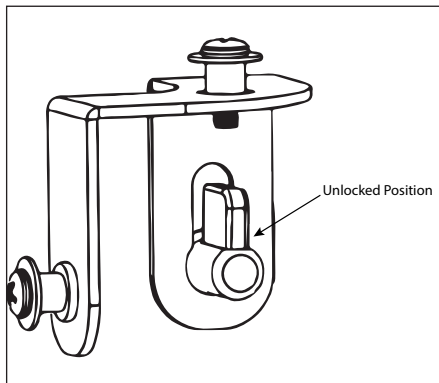

Figure 7. Security Paddles
2. Turn the two security paddles to align with the slot of brackets at each corner (Figure 7).